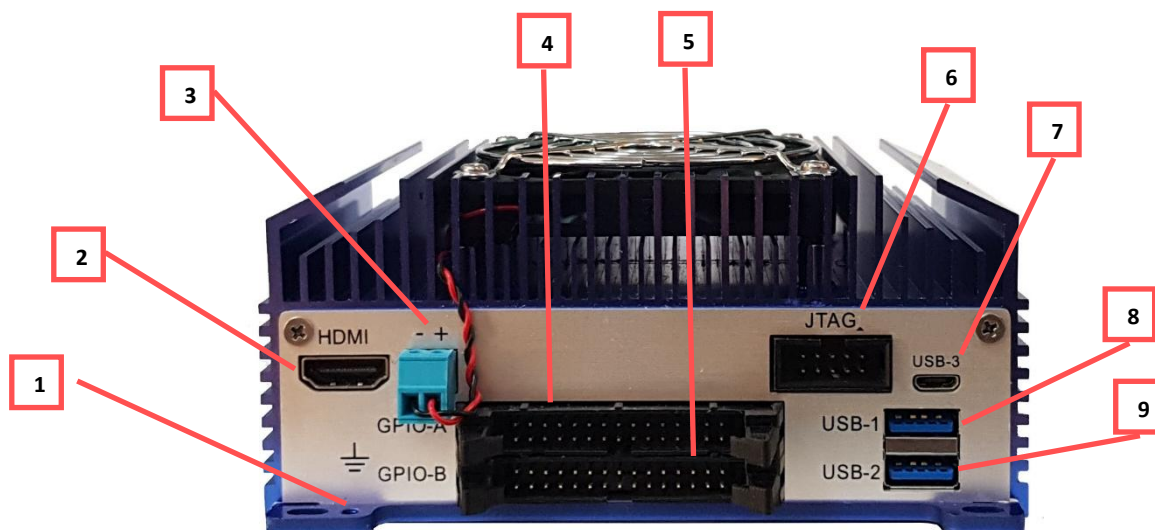

Figure 3 FantoVision20 Rear Panel
*For FantoVision20 without a fan, you may mount this connector to control your own external fan in a similar manner to connector 3 shown in Figure 3